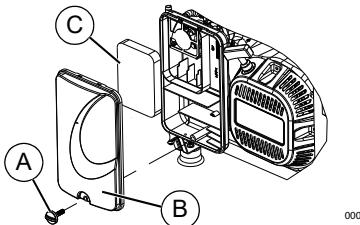

Figure 4-3. Air Filter Assembly
1. See **Figure 4-3**. Turn knob (A) and remove air filter cover (B).
2. Wash in soapy water. Squeeze filter (C) dry in clean cloth (DO NOT TWIST).